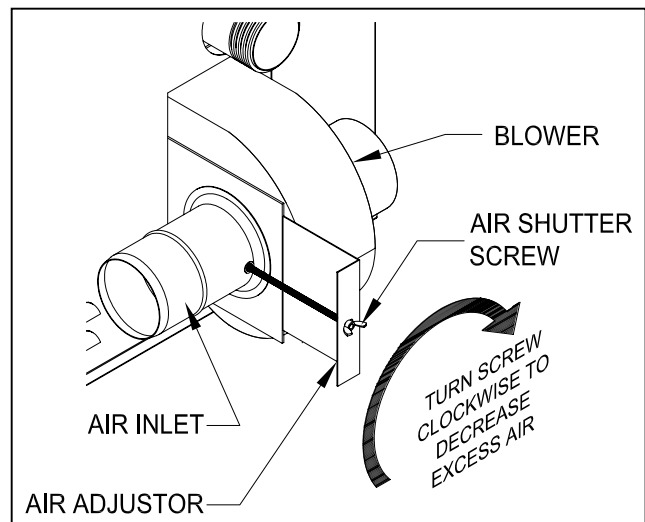

Figure 10 – Blower and air shutter
- Turn the air adjustor screw located on the blower inlet clockwise to slide the air adjustor closed. (Airflow adjustments are made by slowly turning the screw which slides the air adjustor located on the blower inlet to more open or more closed positions as shown in Figure 10.)